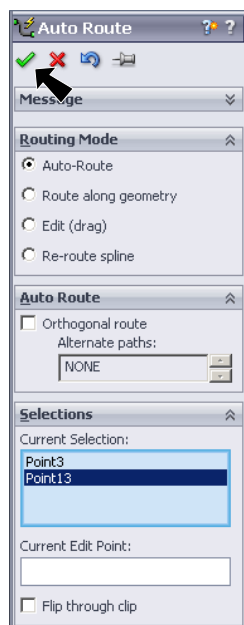
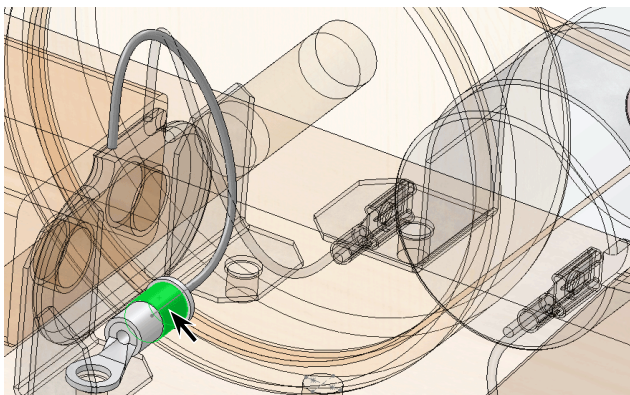

Fig. 7
Fig. 8
Step 7. Click OK  in the Auto Route Property Manager, Fig. 7 and Fig. 8.
Step 9. Grab the barrel of Ring Terminal, Fig. 8 and rotate component clock-wise slightly to move Route away from Route 2 (black), Fig. 9.